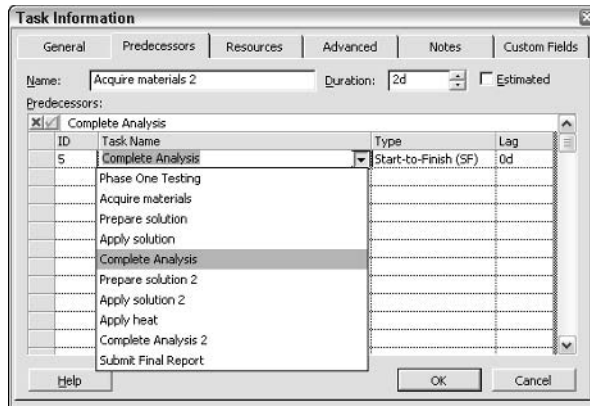

Figure 4-28: Every task that you create for your project appears on this list.
3. Click the arrow to the right of the column to display the drop-down list of task names, as shown in Figure 4-28.